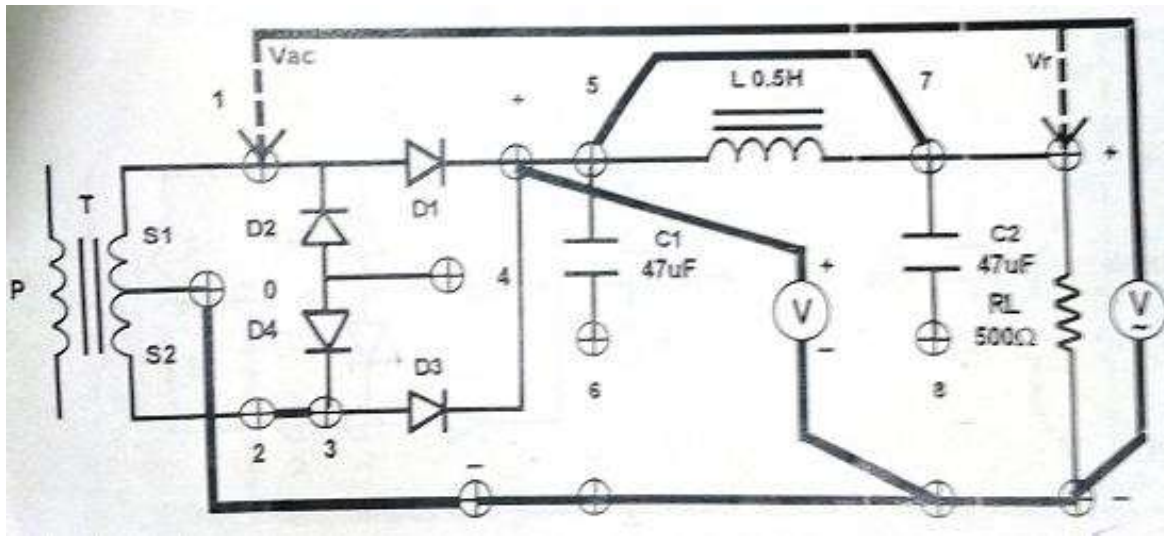

Fig.2. Connection diagram for full wave rectifier.
1. Keep both meter range select switches towards the reverse bias side. Connect diode as shown in fig2, such that its cathode is connected with the +dc terminal of the supply.
1. Connect the circuit as shown in fig2, this will bring diode D3 in the circuit and it becomes a full wave rectifier circuit.